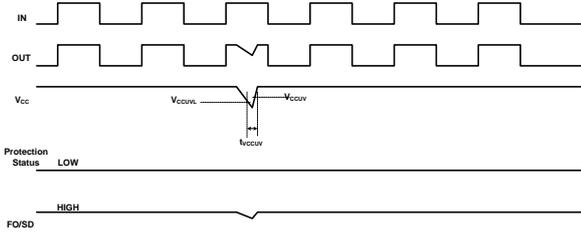

Figure 48. Timing chart of $t_{UVLO} < t_{VCCUV}$ condition
Gate drive output and fault output (FO) does not change when an under-voltage duration (t_{UVLO}) less than under voltage filter time (t_{VCCUV}) as shown in Figure 48.